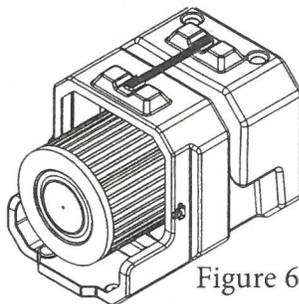

Figure 6.
- a. Inspect the HEPA Cylinder with the filter access panel removed (Fig. 6).